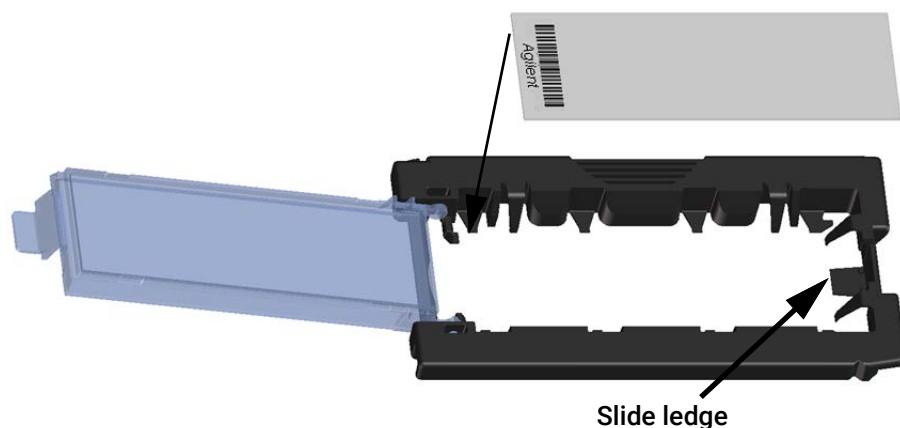

Figure 29 Inserting slide into the slide holder
- a Hold the slide at the barcode end and position the slide over the open slide holder. Make sure that the active microarray surface faces up with the barcode on the left, as shown in **Figure 29**.
- b Carefully place the end of the slide without the barcode label onto the slide ledge. See **Figure 29**.